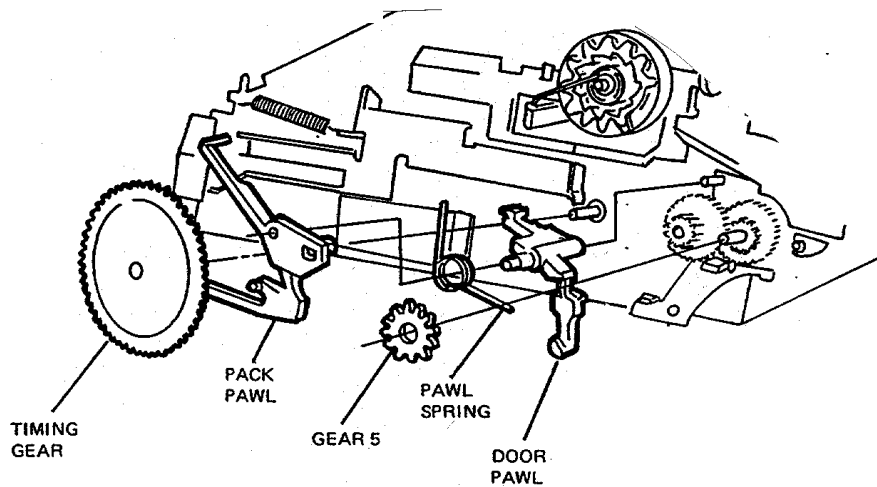

Fig. 48 Replacing Door Pawl and Spring
58. Referring to Fig. 48, replace the Door Pawl and Pawl Spring.
60. Install the Pack Pawl in the position shown in Fig. 48.